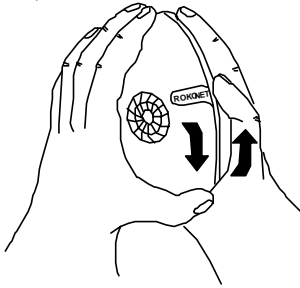

Figure 3. Front Cover Removal
- Hold the base of the detector with one hand and twist the cover clockwise with the other hand until it stops (see Figure 3).